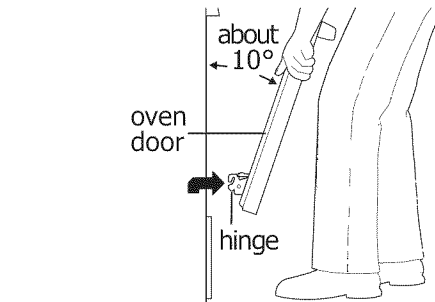
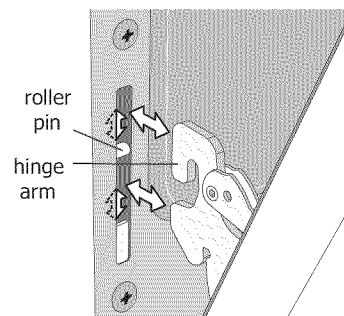

Figure 17: Holding door for removal
Figure 18: Replacement and location of hinge arm and roller pin
3. Firmly grasp both sides of oven door along the door sides. Do not use the oven door handle (See Figure 17).
4. Close the door to approximately 10 degrees from the door frame (See Figure 17).
5. Lift the oven door hinge arms over the roller pins located on each side of the oven frame (See Figure 17).
1. Firmly grasp both sides of oven door along the door sides. Do not use the oven door handle (See Figure 17).
2. Holding the oven door at the same angle as the removal position, seat the hook of the hinge arm over the roller pins located on each side of the oven door frame (See Figure 17 and Figure 18). The hook of the hinge arms must be fully seated onto the roller pins.